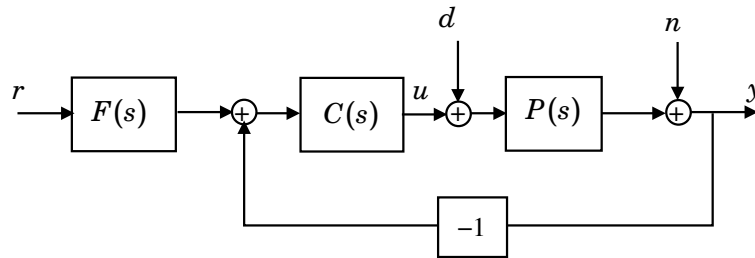

Figure 4.2 Our control loop with reference signal r , load disturbance d , measurement noise n and output y .
The structure of the control system is given in Figure 4.2. In this exercise, we set $F(s) = 1$ and focus on designing a feedback controller $C(s)$ to achieve a fast enough, robust closed-loop system that can reject slow load disturbances. For our system, this translates to the following frequency-domain requirements:
4.6 (*) Consider the control system in Figure 4.2, where the plant is described by